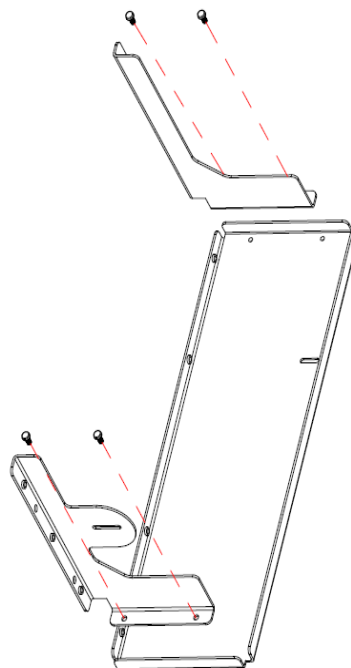

Figure 1
- 1、安装五金左、右板：五金左、右板对准五金底板的孔，用 4pcs M4\*10 的螺钉将其固定，见图 1；
Install the left and right plates of hardware: the left and right plates of hardware are aligned with the holes of the hardware base plate and fixed with 4pcs M4\*10 screw, as shown in Figure 1;